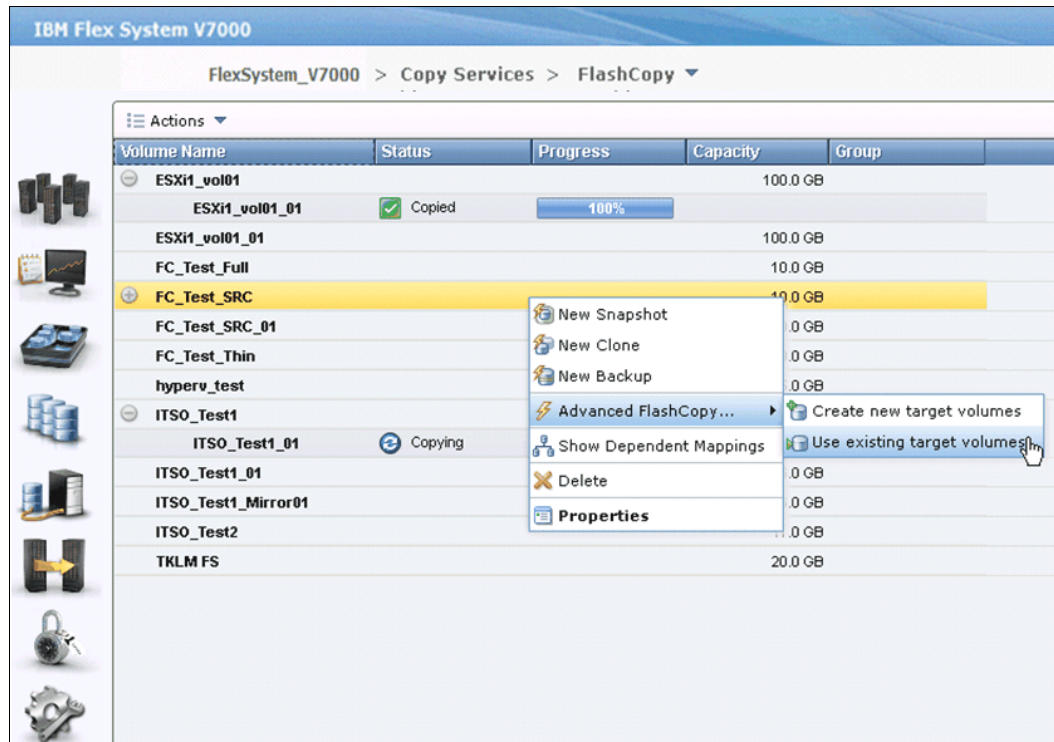

Figure 9-25 Create FlashCopy mapping using existing target volume
- In the Advanced FlashCopy menu, if you already have candidate target volumes, select **Use existing target volumes** (Figure 9-25).